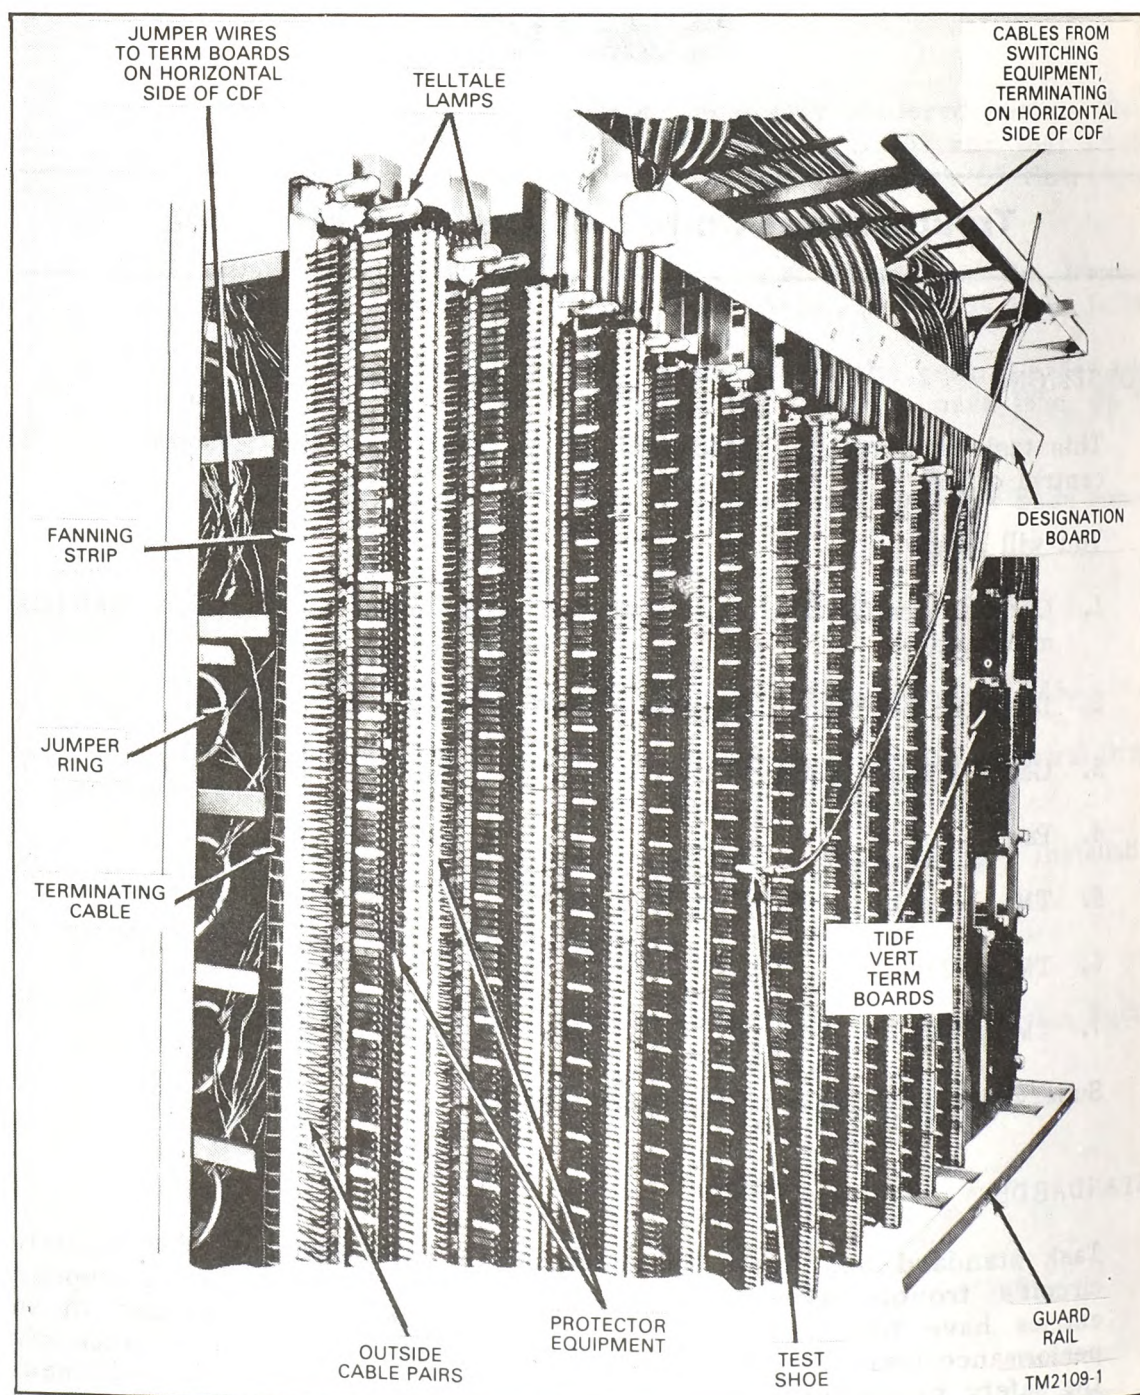

Figure 1. Combined Distribution Frame and Trunk Intermediate Distributing Frame, Vertical Side.
3. Examine the telltale lamp assembly (fig 1), associated with the protector pair of the malfunctioning circuit. A lighted lamp indicates that a heat coil has been operated. (Refer to TM 11-2109, para 6b(4) and 6c, pp 7 thru 9.)